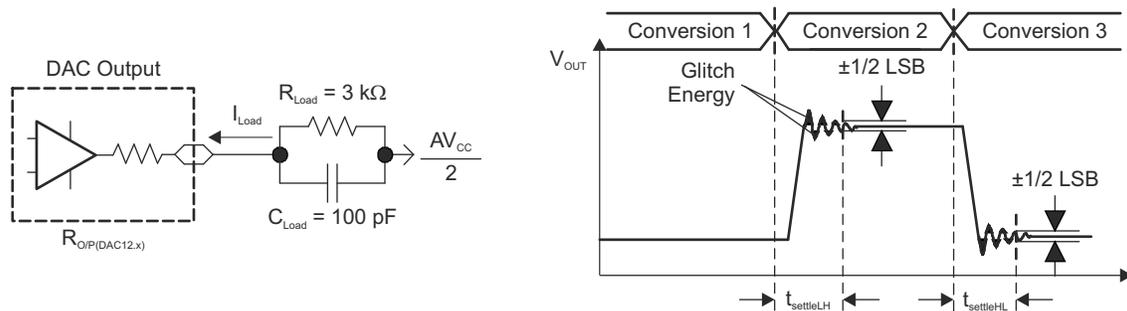
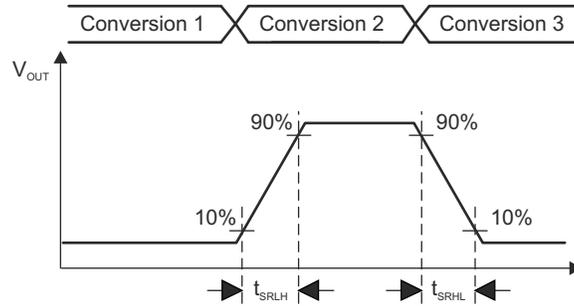

图 8-19. Settling Time and Glitch Energy Testing
图 8-20. Slew Rate Testing
V_{REF} = V_{CC}, DAC12IR = 1 (see 图 8-19 and 图 8-20), over recommended ranges of supply voltage and operating free-air temperature (unless otherwise noted)
- (1) R_{Load} and C_{Load} connected to AV_{SS} (not AV_{CC}/2) in 图 8-19.
- (2) Slew rate applies to output voltage steps ≥ 200 mV.